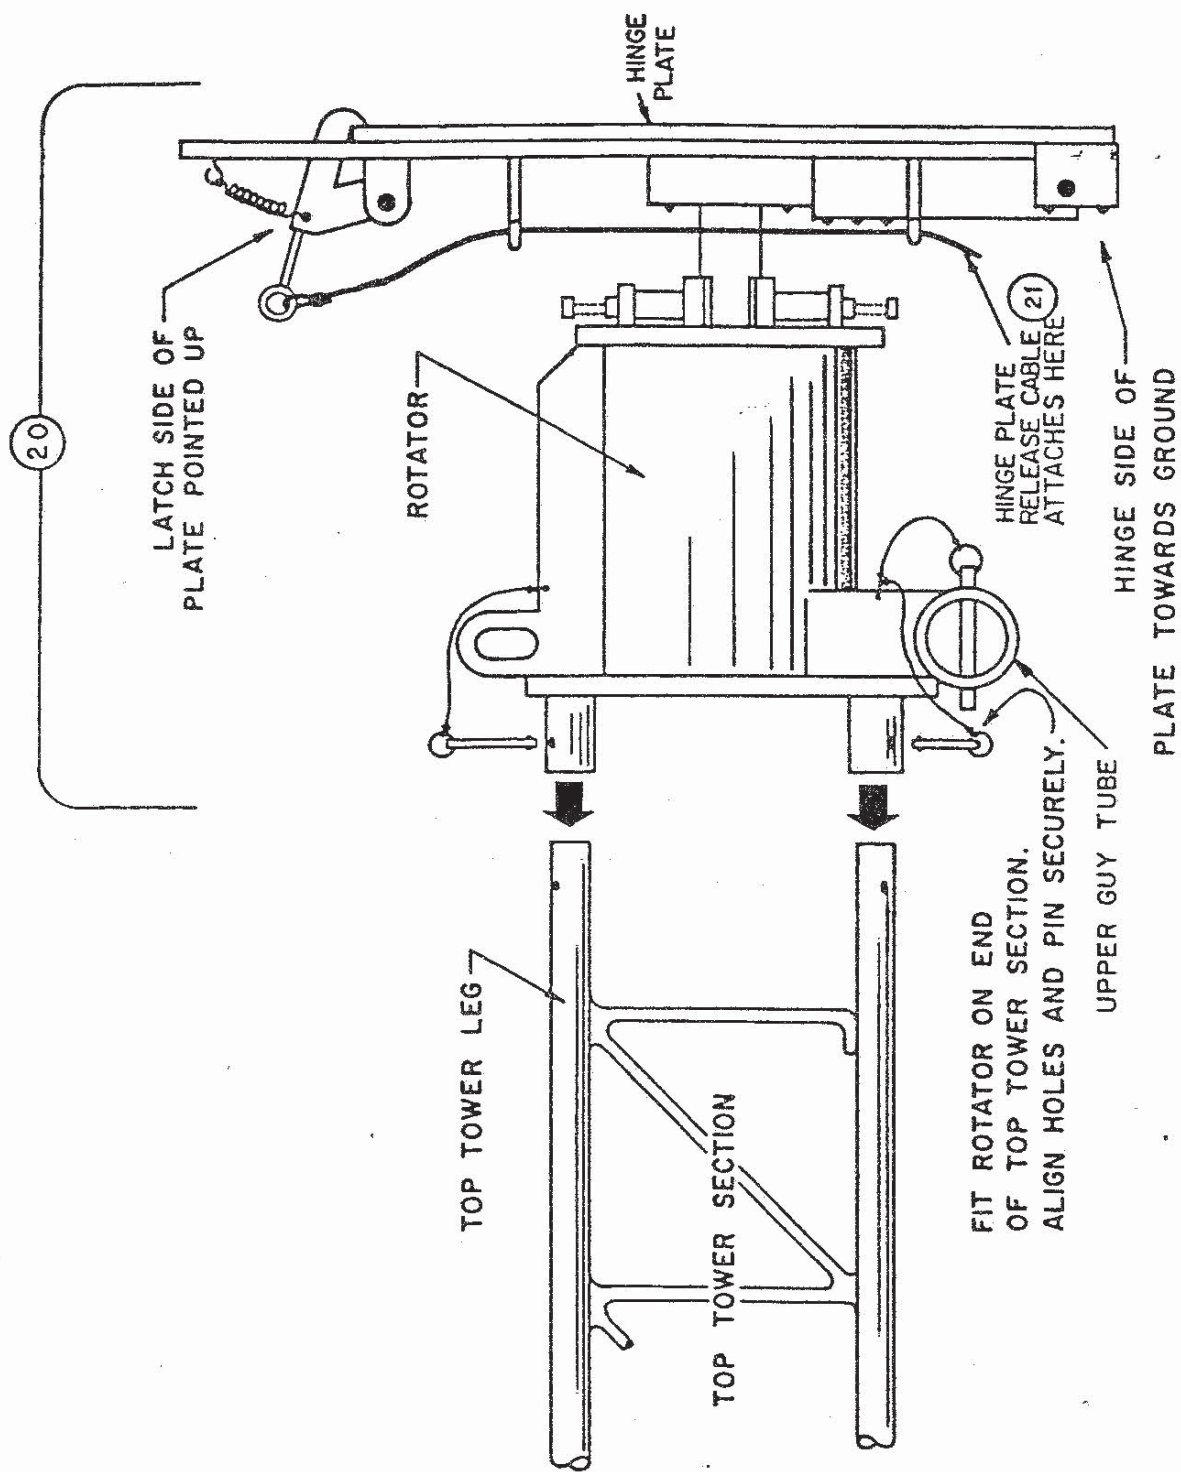

Figure 2-18
- b. Assemble the rotator to the top of the tower, and lock it into place using the detent pins, as shown in Figure 2-18.